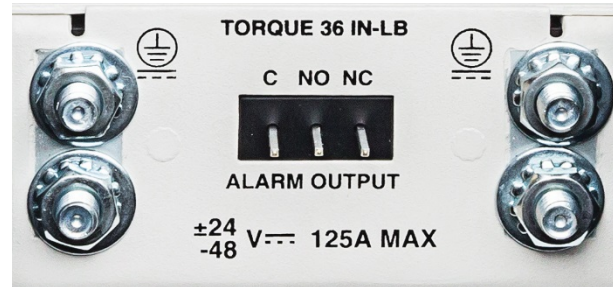

Fig. 10: Alarm relay terminals on rear of panel
- a. Expect an open circuit ( $\infty\Omega$ ) between Terminals **C** and **NO** (see Fig. 10). The ALARM CUTOFF LEDs should not be lit.